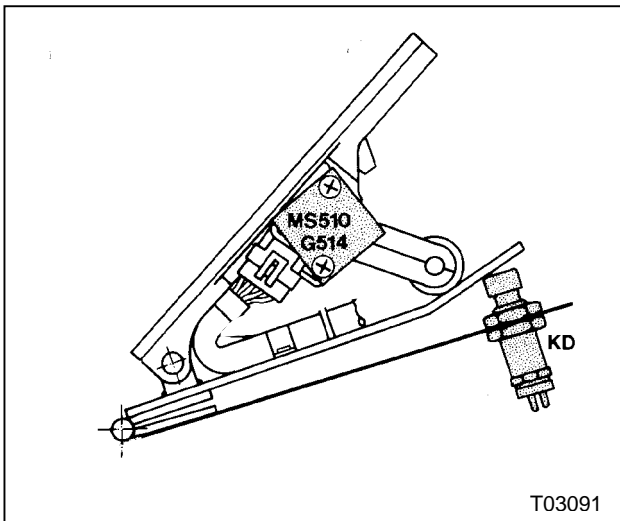

Figure 2: Accelerator pedal assembly
3. Transmission modulator control switch (Kick-Down: KD in Figure 2):